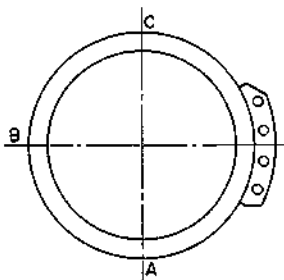

Fig. 4-20
- b) Ascertain that points A and C are within $-15\mu \pm 5\mu$ from point B in Fig. 4-20 and errors at points A and C are within 3μ .